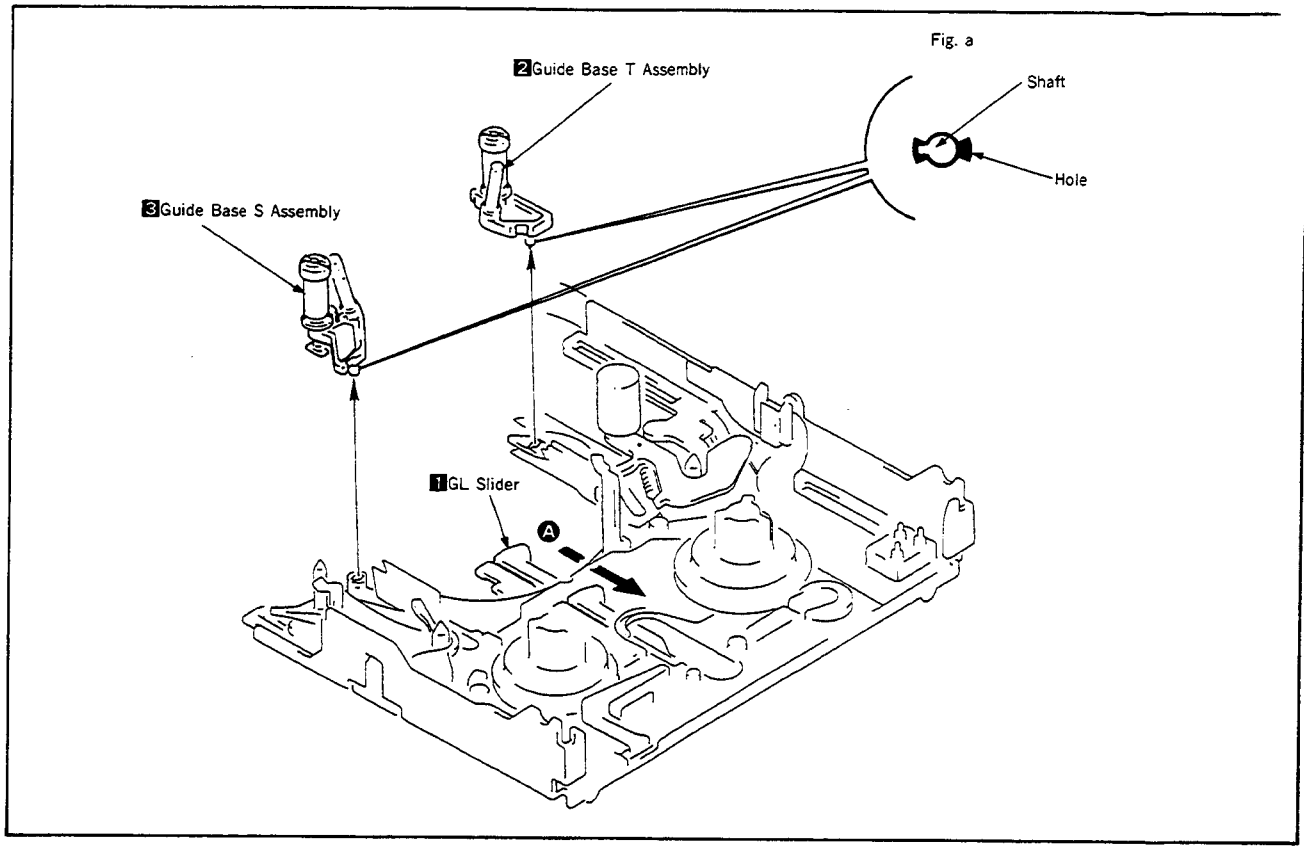

Fig. 15
3- GUIDE BASE T ASSEMBLY AND GUIDE BASE S ASSEMBLY (Fig. 15, 16)
- 5) Push in the GL slider **1** toward the arrow **A**, and remove the guide base T assembly **2** and guide base S assembly **3** from the guide rail respectively as shown in Fig. 15.
- 1) Turning the guide base T assembly **2** and guide base S assembly **3** respectively, align the shaft with a hole to mount as shown in Fig. a (Fig. 15).